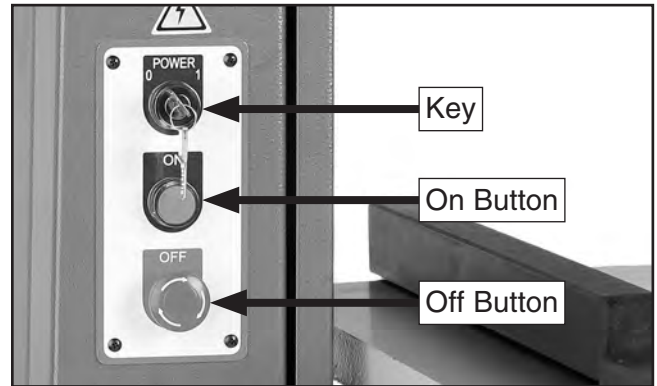

Figure 20. Location of switch disabling key and ON/OFF switch.
4. Verify machine is operating correctly by turning switch disabling key (**Figure 20**) to "1" and turning machine **ON**.
8. Turn switch disabling key to "0", as shown in **Figure 20**.